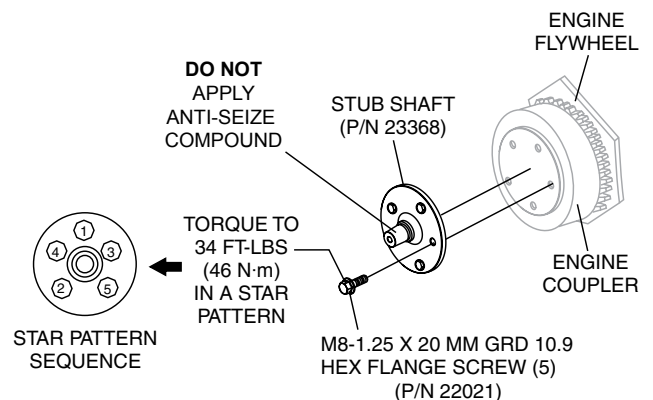

Figure 11. Stub Shaft Installation
3. Using a 13mm socket, install **new** stub shaft, P/N 23368, with M8-1.25 x 20 mm hex flange screws (5), P/N 22021, onto engine coupler. **DO NOT** apply anti-seize compound to stub shaft. See Figure 11.
4. Torque stub shaft mounting screws to 34 ft-lbs (46 N·m) in a **star pattern**. See Figure 11.